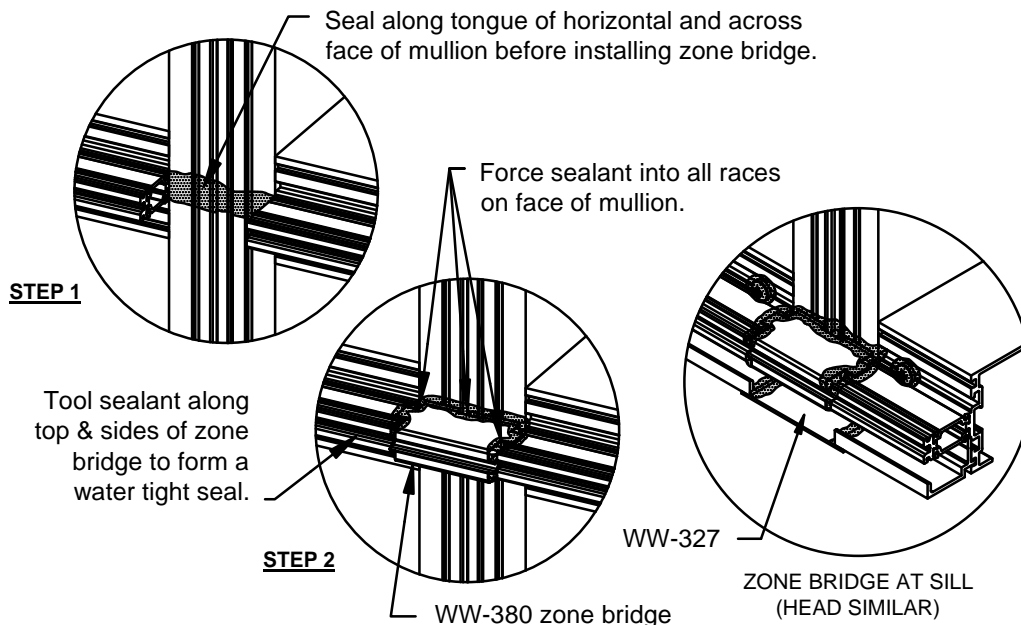

FIGURE 28
- 3.18 WW-380 bridge is required at SSG mullion to horizontal connections. Apply sealant along face of mullion as shown in step 1, slide bridge over horizontal tongue and apply additional sealant along horizontal and mullion. The WW-380 bridge has two sealant tracks along each side. Force sealant into these tracks to seal ends of thermal ~~SEE~~ **SEE** FIGURE 28.